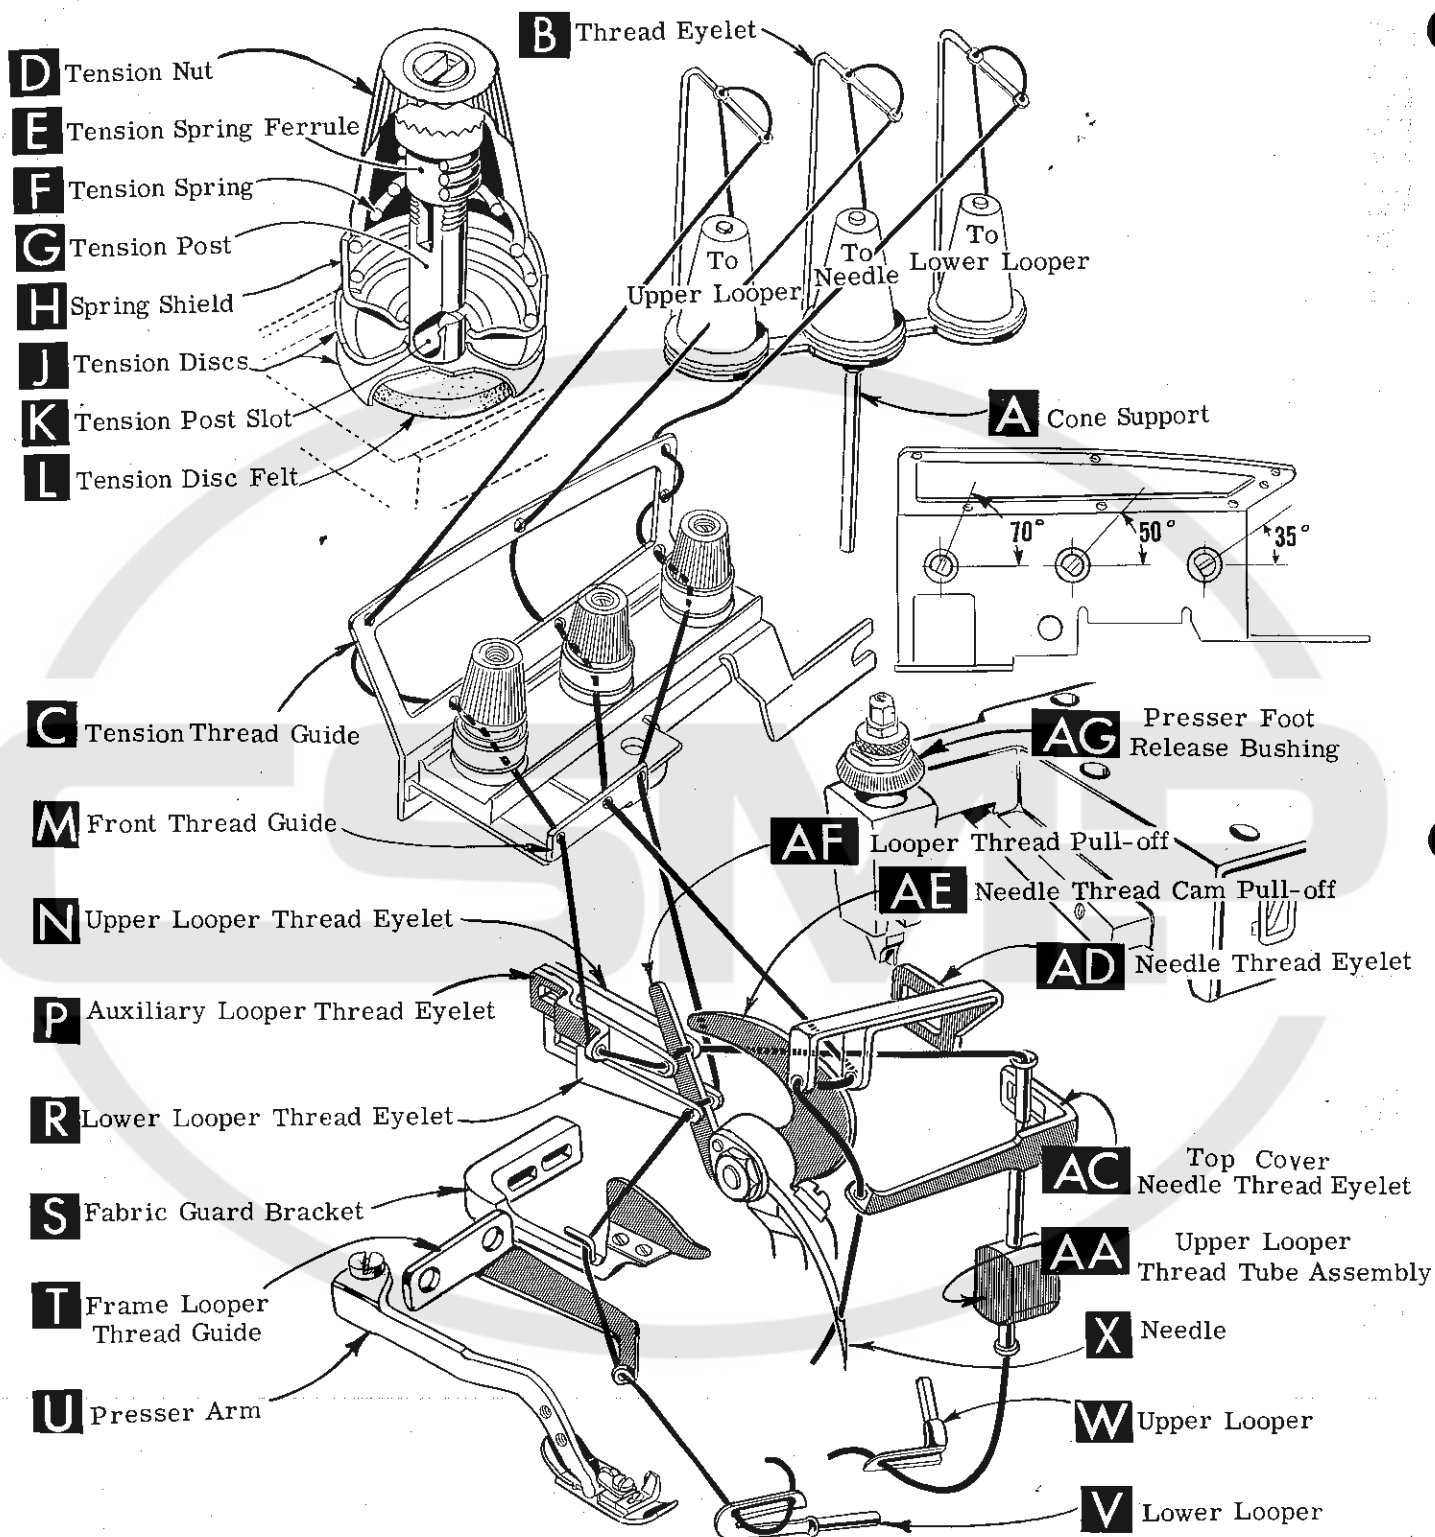

Fig. 1
Release pressure on presser foot by turning presser foot release bushing (AG, Fig. 1 or 1A) and swing presser arm (U) out of position. Turn handwheel in operating direction until needle is at its lowest point of travel. Using hexagonal socket wrench No. 21388 AU, furnished with machine, loosen needle clamp nut about 1/4 turn. Again turn handwheel until needle is at high position. Withdraw needle.
After thread comes from cones on cone support (A, Fig. 1 or 1A) it is brought up through the back hole of thread eyelet (B), then down through the front hole of thread eyelet. Next it is threaded through the upper hole of tension thread guide (C) from front to back and then through the lower hole from back to front.
Only parts involved in threading are shown in threading diagram (Fig. 1 and 1A). Parts are placed in their relative positions for clarity.
Be sure the threads, as they come from the tension thread guide (C) are between tension discs (J) and in tension post slot (K) in tension post (G). The tension posts should be positioned so the tension post slot will be at the approximate angle for the different threads as indicated in Fig. 1 and 1A.
Thread lower looper thread through right eyelet of front thread guide (M). Then double end of thread and lead it through both eyes of lower looper thread eyelet (R, Fig. 1) from right to left. Note: thread must pass in front of looper thread pull-off (AF). Lead thread behind fabric guard (S) and through eyelet hole of frame looper thread guide (T). Turn handwheel in operating direction until heel of lower looper (V) is all the way to the left; then thread through both eyes from left to right. Left eye of lower looper can be threaded easily if tweezers are in left hand.
Thread upper looper thread through left eyelet of front thread guide (M, Fig. 1 or 1A). Turn handwheel until point of upper looper (W) is all the way left. Lead
Thread needle thread through middle eyelet of front thread guide (M). Then turn handwheel in operating direction until needle (X, Fig. 1) is at its highest position. Insert needle thread from right to left, through both eyes of needle thread eyelet (AD), under neck of top cover casting; then down through hole in top cover needle thread eyelet (AC). Thread needle from front.
The amount of tension on needle and looper threads is regulated by the tension nuts (D, Fig. 1 and 1A). Tension on threads should be only enough to secure proper stitch formation.
Be sure machine is threaded according to threading diagram (Fig. 1).
To increase thread drawn on downstroke, position needle thread eyelet (AD, Fig. 1) farther to the rear. With needle at the bottom of its stroke, position needle thread eyelet (AD), so that needle thread cam-off (AE) just contacts the needle thread.
Set lower looper thread eyelet (R, Fig. 1) about horizontal and all the way forward in its slot.